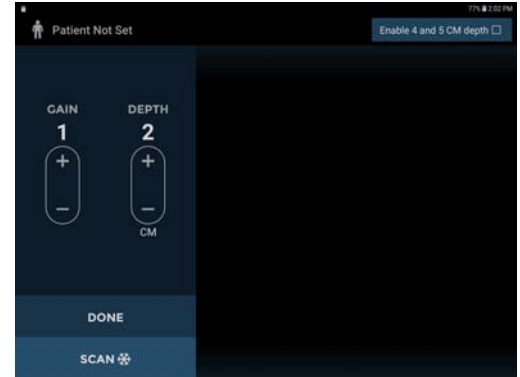

Fig 3.19 Enable 4 and 5 CM depth
- Select *Enable 4 and 5 CM depth* (Fig 3.19).